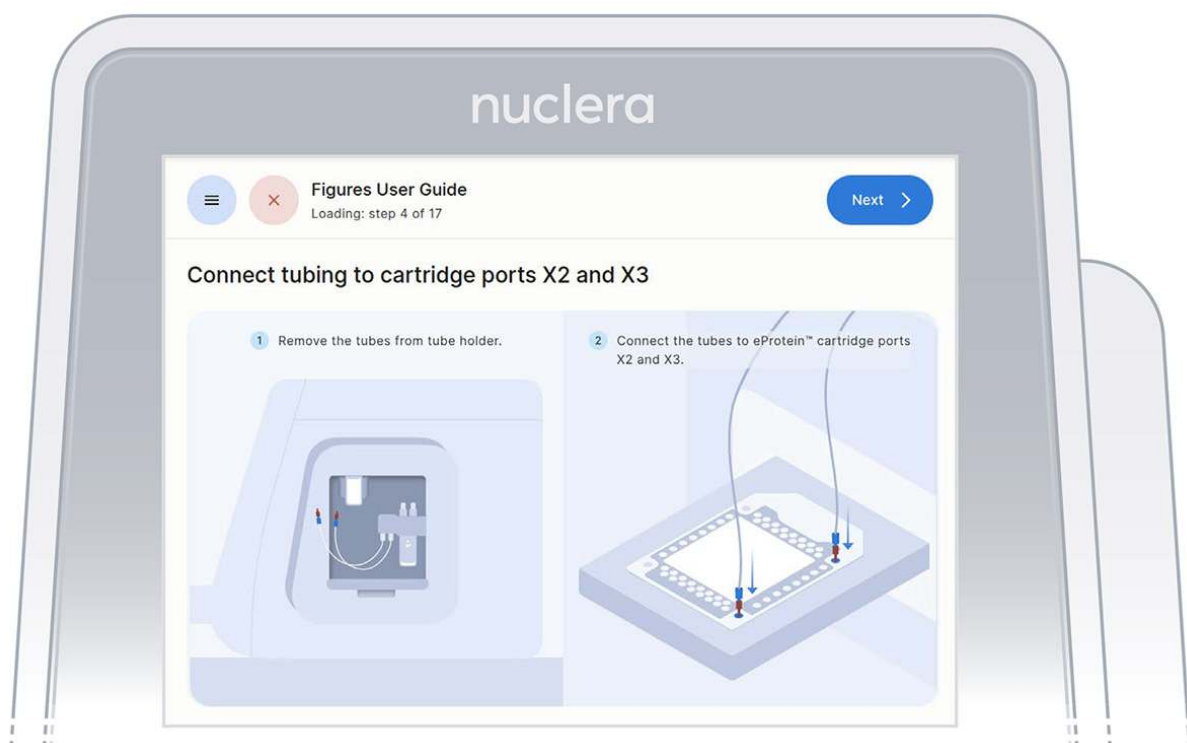

Figure 16: Connection of the pump tubes to the cartridge
2. Remove connectors tubing from the holder, connect them tightly to the corner ports X2 and X3 of the cartridge, and press the [Next] button (Figure 16). Either connector can be interchangeably inserted into corner port X2 or X3.